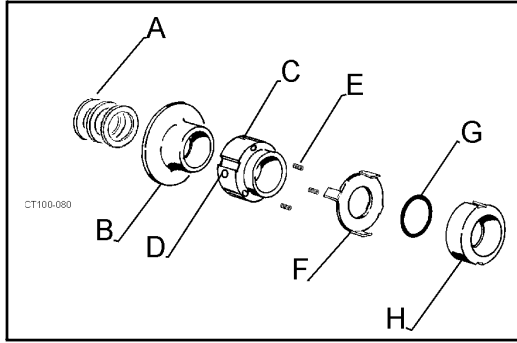

Figure 14 - Type 1 Seal Components
1. Remove deflector (Figure 14, item B).
NOTE: Drive key and shims (Figure 14, item A) remain on motor shaft. If impeller is replaced, add or remove shims as necessary.
2. Loosen set screws (2) (Figure 14, item D) in spring retainer (Figure 14, item C). Slide retainer and washer (Figure 14, item F) off shaft. Save springs (3) (Figure 14, item E).
5. Remove o-ring and lift rotary seal off shaft (Figure 14, item G and H).